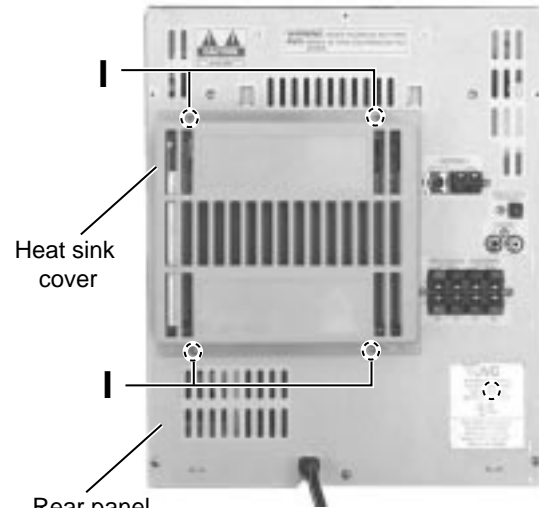

Fig.14
■ Removing the heat sink & AMP board (See Fig.14 and 15)